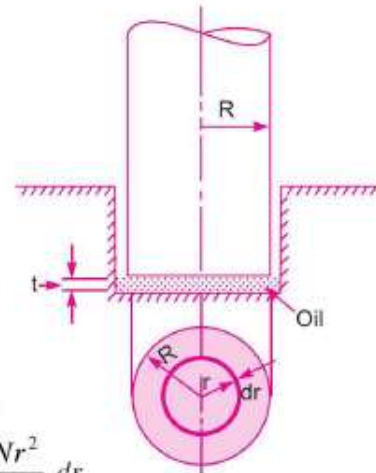

Fig. 9.11 Foot-step bearing.
9.5.2 Viscous Resistance of Foot-Step Bearing. Fig. 9.11 shows the foot-step bearing, in which a vertical shaft is rotating. An oil film between the bottom surface of the shaft and bearing is provided, to reduce the wear and tear. The viscous resistance is offered by the oil to the shaft. In this case the radius of the surface of the shaft in contact with oil is not constant as in the case of the journal bearing. Hence, viscous resistance in foot-step bearing is calculated by considering an elementary circular ring of radius r and thickness dr as shown in Fig. 9.11.